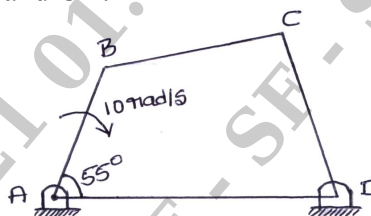

Fig.Q.3
- 3 In the four bar mechanism shown in Fig.Q.3(a) the lengths of various links are $AB = 190\text{mm}$, $BC = CD = 280\text{mm}$, $AD = 500\text{mm}$, $\angle BAD = 55^\circ$. The crank AB rotates at 10 rad/s in clockwise direction. Determine: